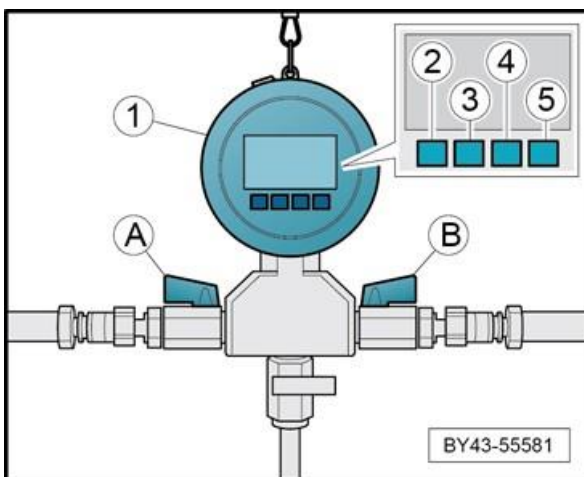

Figure 1
These checks should be carried out in conjunction with the Elsapro procedure "Air suspension – To check" with the use of the special tool "Air suspension leak tester VAS 751 001" shown in Figure 1 as item (1). Refer to Elsapro, Repair Group 43, "Air suspension – To check".